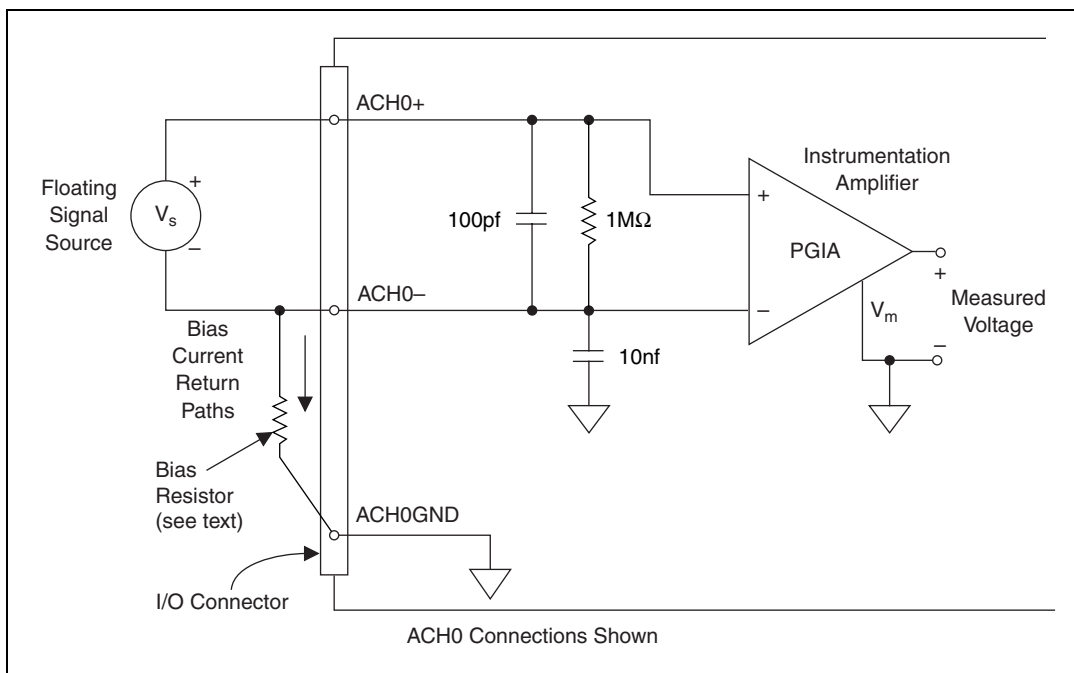

Figure 4-5. Differential Input Connections for Nonreferenced Signals
Figure 4-5 shows how to connect a floating signal source to a channel on the NI PCI-6110/6111.
Figure 4-5 shows a bias resistor connected between $ACH0-$ and the floating signal source ground. If you do not use the resistor and the source is truly floating, the source often floats outside the common-mode signal range of the PGIA, and the PGIA saturates, causing erroneous readings. You must reference the source to the respective channel ground.
1. The common-mode voltage (V_{cm}), which is equivalent to subtracting ACH<0..3>GND from ACH<0..3>- and which is shown in Figure 4-5, must be less than ± 11 V. This V_{cm} is a constant for all range selections.
2. The signal voltage (V_s), which is equivalent to subtracting ACH<0..3>- from ACH<0..3>+ and which is shown in Figure 4-5, must be less than or equal to the range selection of the given channel. If V_s is greater than the range selected, the signal clips and information is lost.